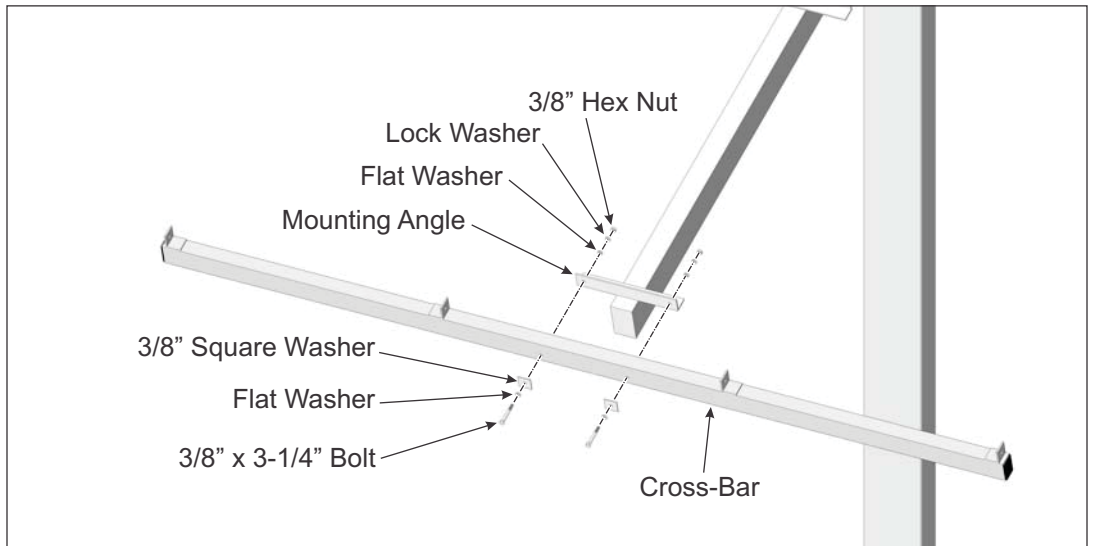

Figure 3-2: Installing Cross-Bars to Strongback
- A. Starting at the south location, position the Cross-Bar on the outside of the mounting angle of the Strongback. Align the mounting holes and secure using 3/8” flat and square washers along with the 3/8” x 3-1/4” bolts and lock washer placing the square flat washer against the Cross-Bar. Tighten hardware and **Torque to 30-32 ft.-lbs.** (See Figure 3-2)
- B. Continue in this manner and install the remaining three Cross-Bars to the Strongback. Refer to Figure 3-2 as needed for proper positioning.